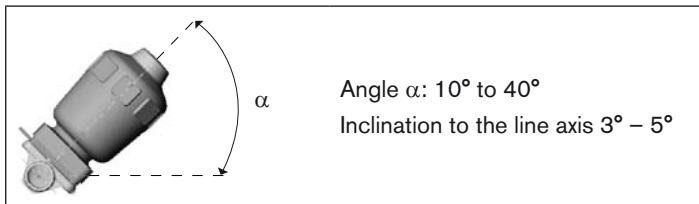

Fig. 24: Installation position for self-drainage of the housing
- Install housing inclined by angle $\alpha = 10^\circ$ to 40° to the horizontal (see Fig. 24:).